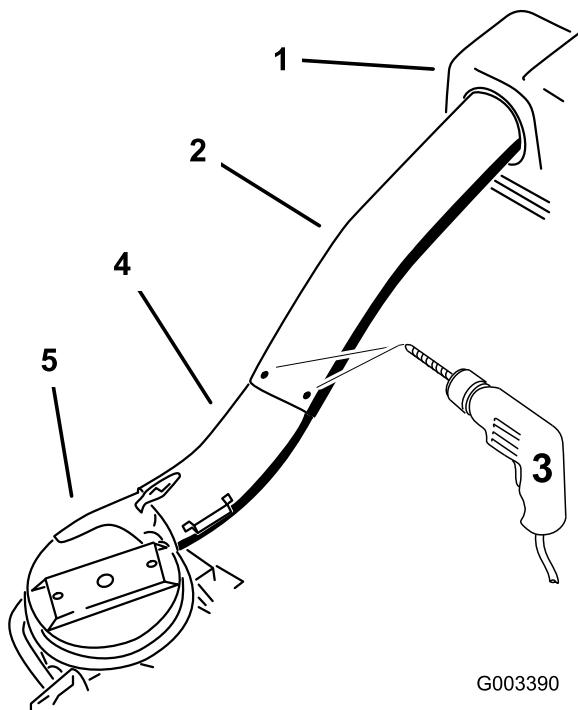

Figure 27
9. Using the 3 holes or indentations in the upper tube as a template, drill 3 holes (7/32 inch diameter) where the upper and lower tubes join together (Figure 27).